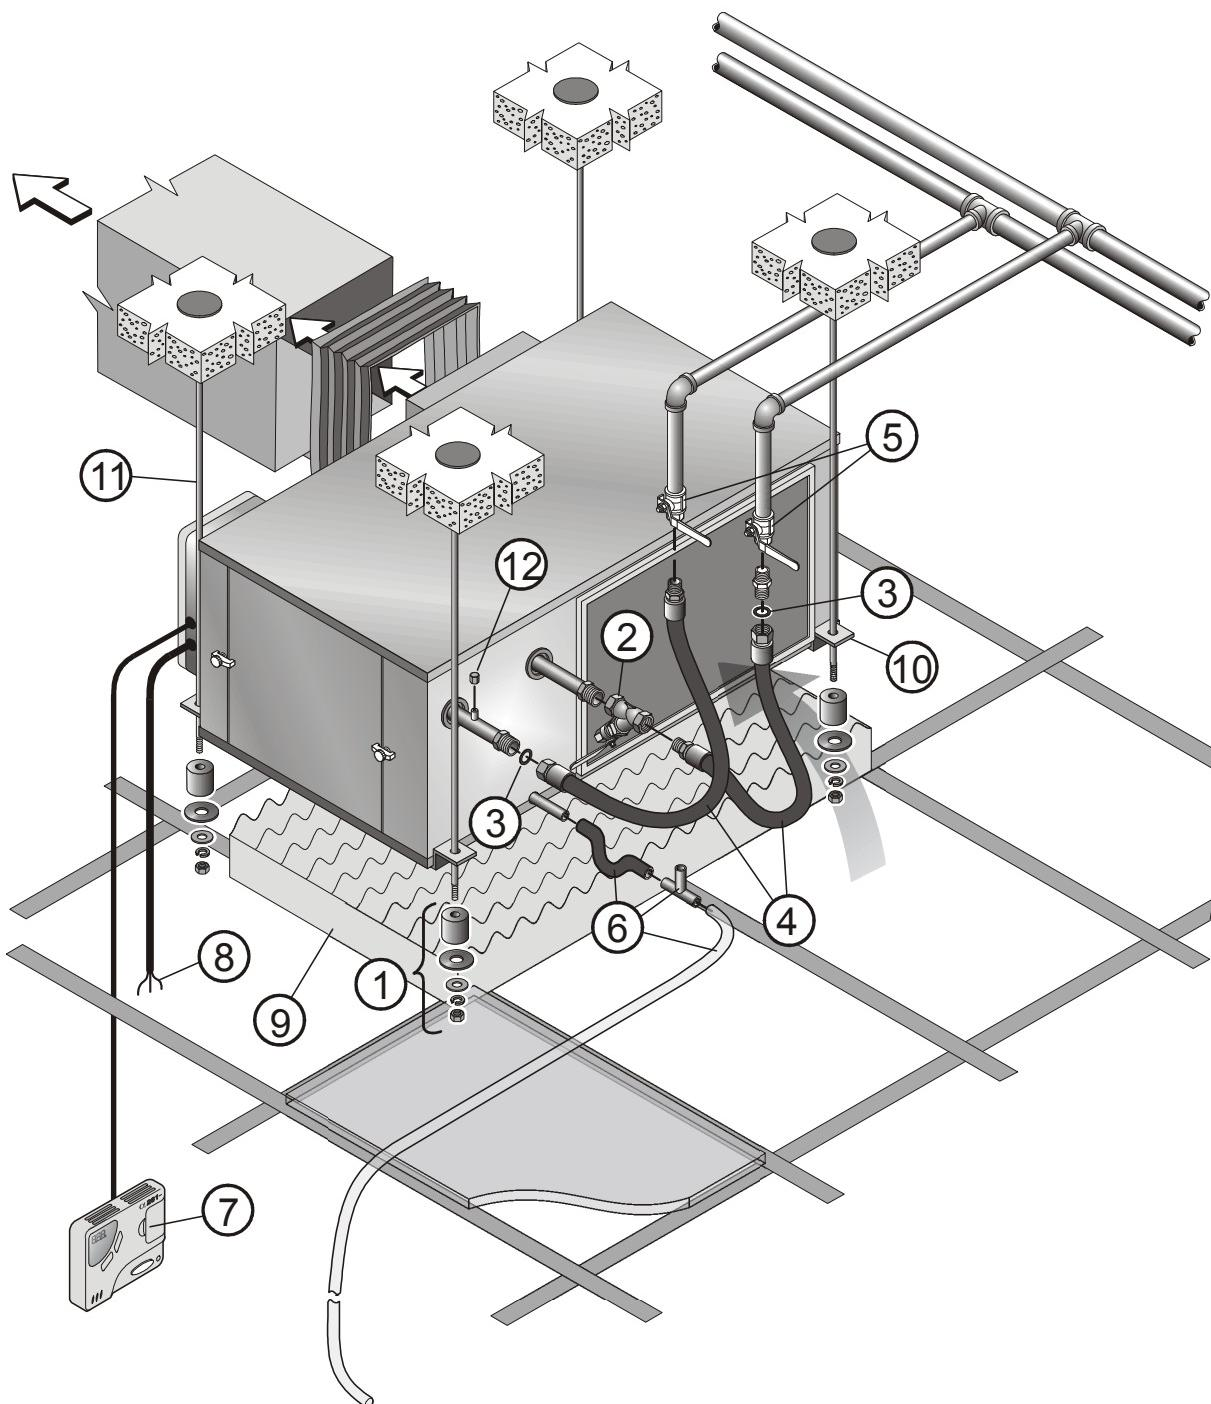

Fig. 7-1
### 7.4.1 Installing the Unit Directly On the Ceiling (Fig. 7-1)
- Mark 4 holes on the ceiling, according to the unit's mounting bracket holes (10).
- Drill adequate holes and fix the long ceiling anchors (11) in position.
- Lift up the unit onto the hanger anchors through the mounting brackets. Insert four rubber shock absorbers on the four anchors, as shown in Fig. 7-1. Lock the assembly with the lock nut.
- In any mode of installation it is recommended to place under the unit an acoustic insulation sheet (9).
- Connect the incoming water to the WATER IN connection and the return water to the WATER OUT connection. Use adequate thread sealant and also the supplied sealing ring (3).
- The supplied strainer (2) must be installed on the WATER IN connection. See Fig. 7-1. Install the strainer with the drain plug facing down, in a location with convenient service access.
- Complete the water piping installation and open the two cut-off valves (5). Allow water to flow in and out the unit.
- Carefully open the air vent plug (12). Release all air from the system and close the plug back.
- Inspect all connections for water leaks. It is common practice to leave open the two cut-off valves (5) throughout the rest of the installation and occasionally inspect the piping for leaks.
Connect the supplied rubber siphon (6) to the drain hose connection. See Fig. 7-1 for details. The T- connection (breather, not supplied) and the drain hose (not supplied) immediately follow the siphon.